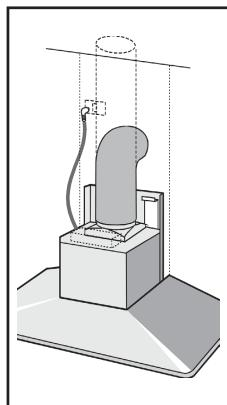

fig. 6
- Connect the air outlet pipe to the air vent of the hood; use a flexible pipe and lock it to the air vent of the hood with a metal hose clamp - Fig. 6 (pipe and clamp are not provided).